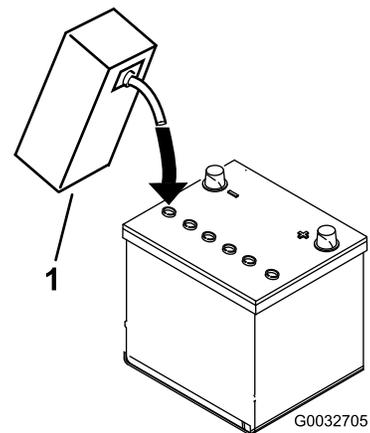

Figure 7
3. Carefully fill each cell with electrolyte until the plates are covered with about 6 mm (1/4 inch) of fluid (Figure 7).
bring the electrolyte to within about 6 mm (1/4 inch) of the bottom of the fill well (Figure 7).